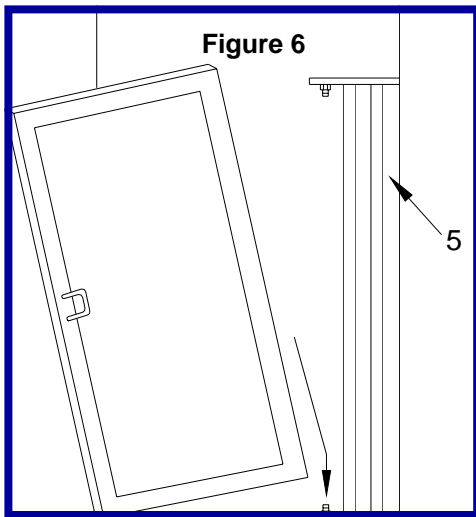

Figure 6
- drilling installation holes & install plastic wall anchors (12)
- Secure wide pivot jamb (5) to wall with three #8 x 1 1/2" TH SMS screws (13). (See Figure 6)
- Thread top bolt (7) into pivot hole in top of door.